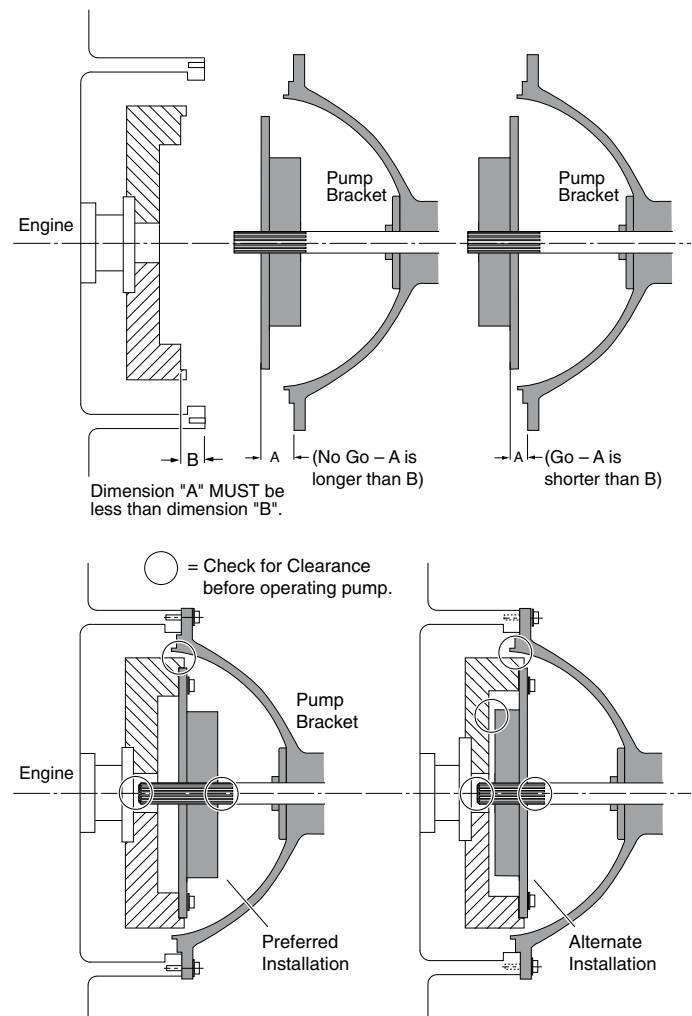

Figure 3
- Measure the distance from the engine side of flywheel coupling adapter ring to the mounting face of the pump bracket. Refer to Figure 3 below, **Dimension “A”**.
- Next, measure depth from face of flywheel housing on engine, to face on flywheel against which coupling will be bolted. Refer to Figure 3 below, **Dimension “B”**.